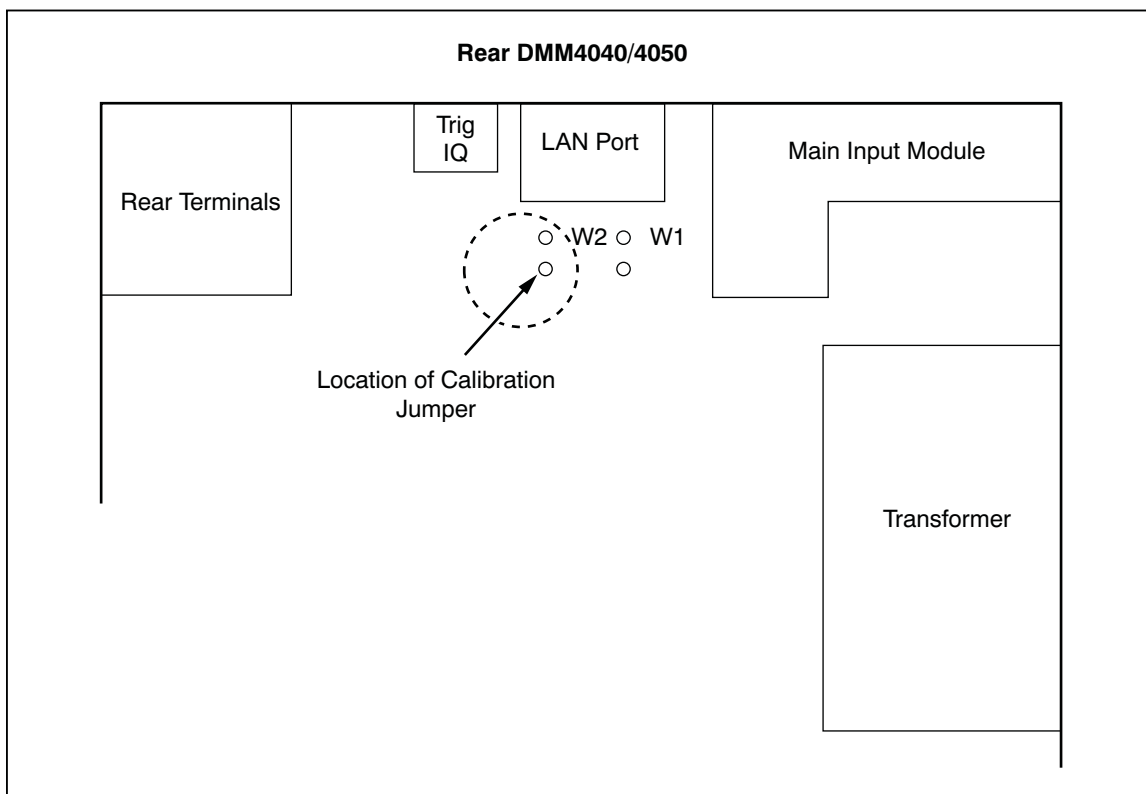

Figure 3-10. Calibration Jumper Location
2. Connect a jumper across W2, as shown in Figure 3-10.